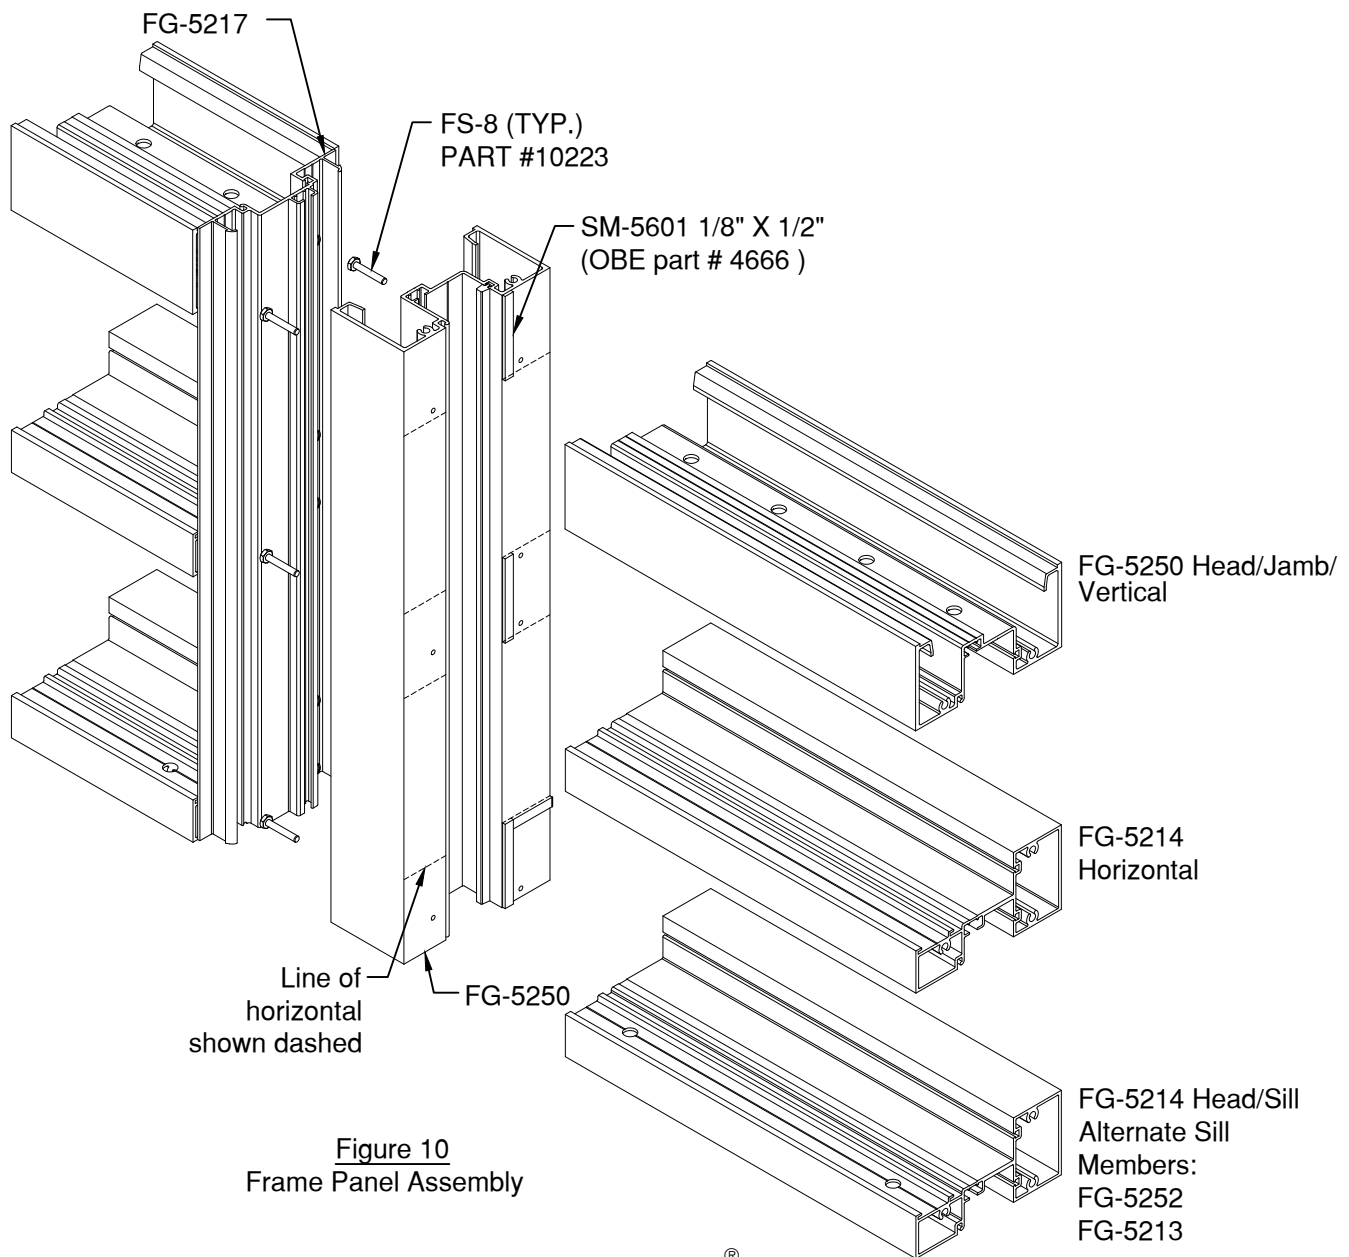

Figure 10
- 3.1.1 Clean framing members at locations where Isocryl® Tape is noted to be attached. SEE FIGURE 10, at tape intersection there should be no gaps.